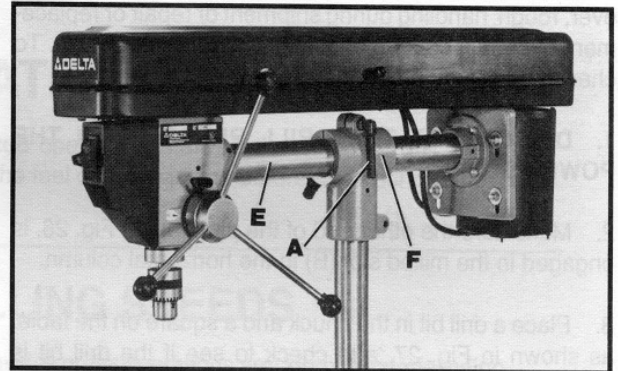
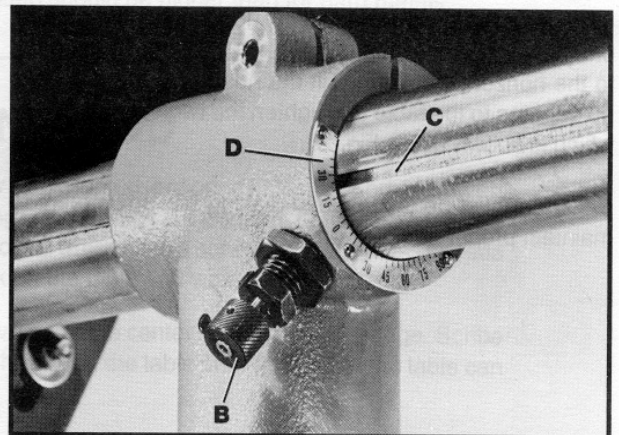

Fig. 23
Fig. 24
The head can be tilted 45 degrees to the left and 90 degrees to the right by loosening the horizontal column clamp (A) Fig. 23, and pulling out and turning plunger (B) Fig. 24. Tilt the head to the desired angle and lock the horizontal column clamp (A) Fig. 23. When returning the head perpendicular to the table, make sure the end of the plunger (B) Fig. 24, is engaged with the milled slot (C) in the horizontal column and lock the horizontal column clamp (A) Fig. 23. **NOTE:** The degree of tilt of the head can be read by lining up the top edge of the milled slot (C) Fig. 24, with the corresponding line on the scale (D).
The horizontal column (E) Fig. 23, can be moved in or out in the T-bracket (F) by loosening horizontal column clamp (A), move the horizontal column (E) to the desired position and tighten the horizontal column clamp (A).